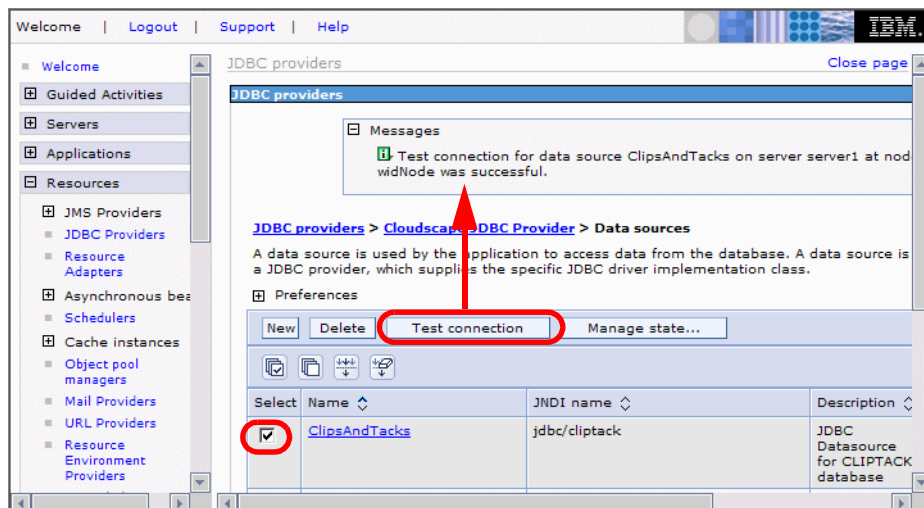

Figure 9-12 Testing the data source
- ▶ In the data source list (of the Cloudscape JDBC provider), select the *ClipsAndTacks* data source and click *Test connection* (Figure 9-12).